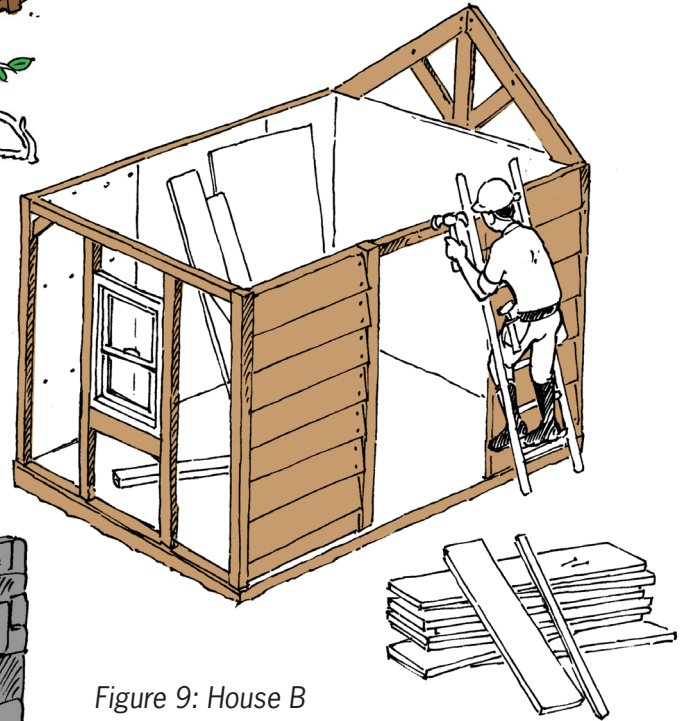

Figure 9: House B
2. (a) What material is being used to build the house in Figure 9?
- (c) What tools are being used by the people building the house in Figure 9?